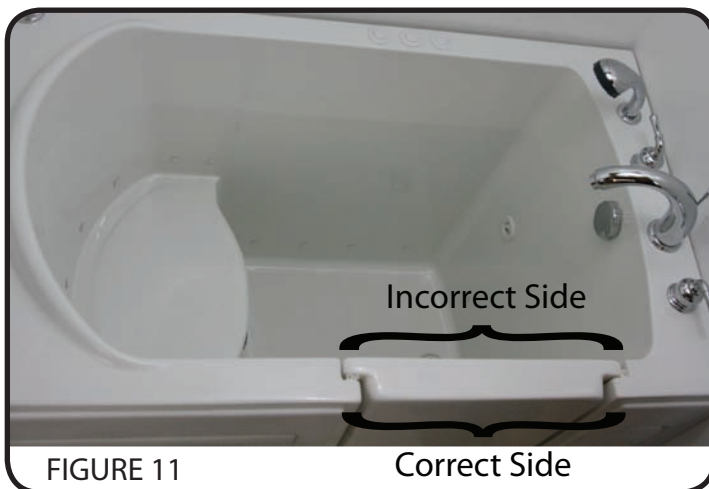

FIGURE 11
3. With the tub adjusted to the proper height, the door opening needs to be checked for the proper width. Figure 11